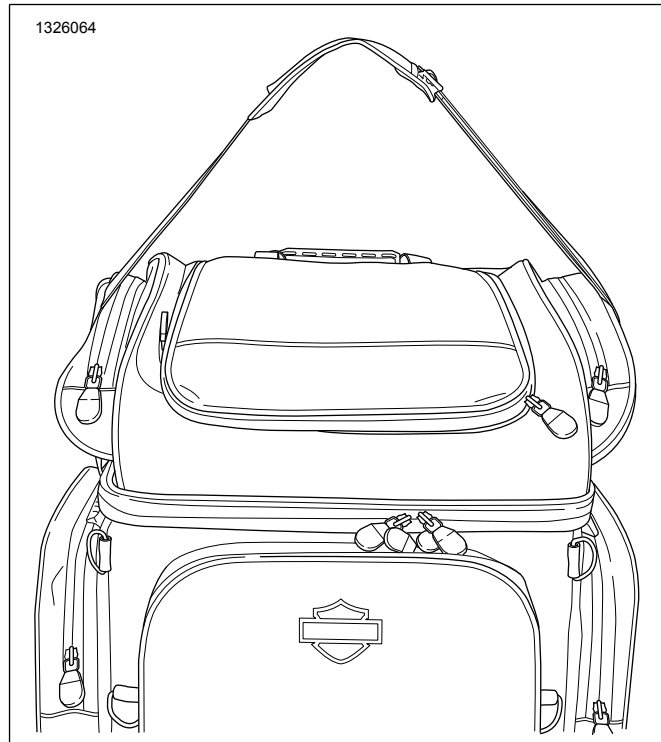

Figure 2. Shoulder Strap (Typical)
1. Figure 2 Hook ends of strap to D-rings on each side of bag.